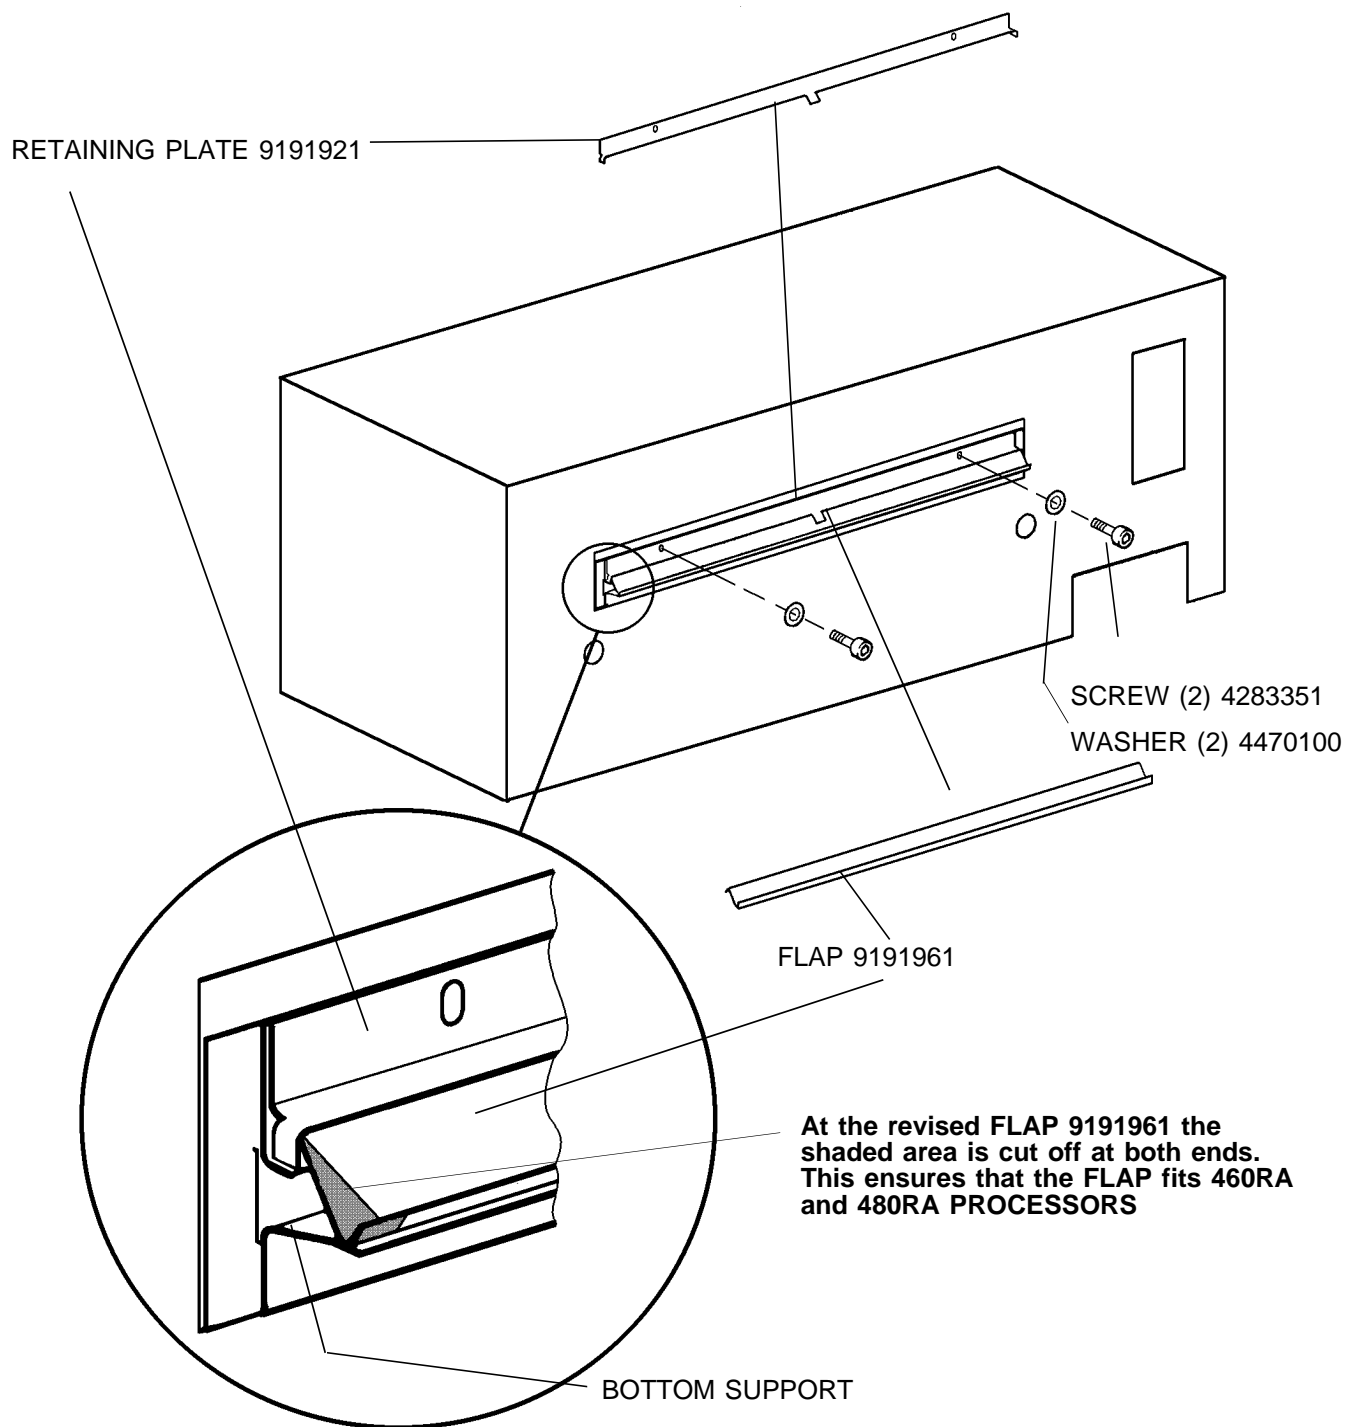

figure 4
9. Install the FLAP 9191961 and the RETAINING PLATE 9191921 with SCREWS 4283351 and WASHER 4470100 to the BASE 9191923. See figure 4.